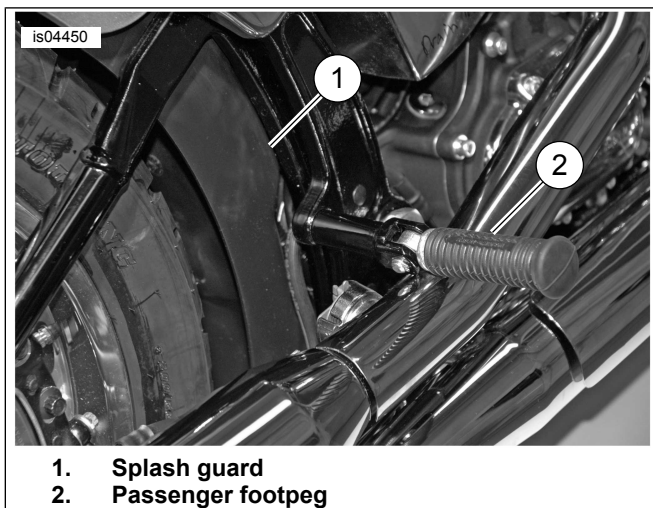

Figure 5. Splash Guard and Passenger Footpeg
1. See Figure 5. Remove screw on inboard side and lift tabs to release splash guard.
2. See Figure 5. Slide splash guard downward inside wheel well to its original position.